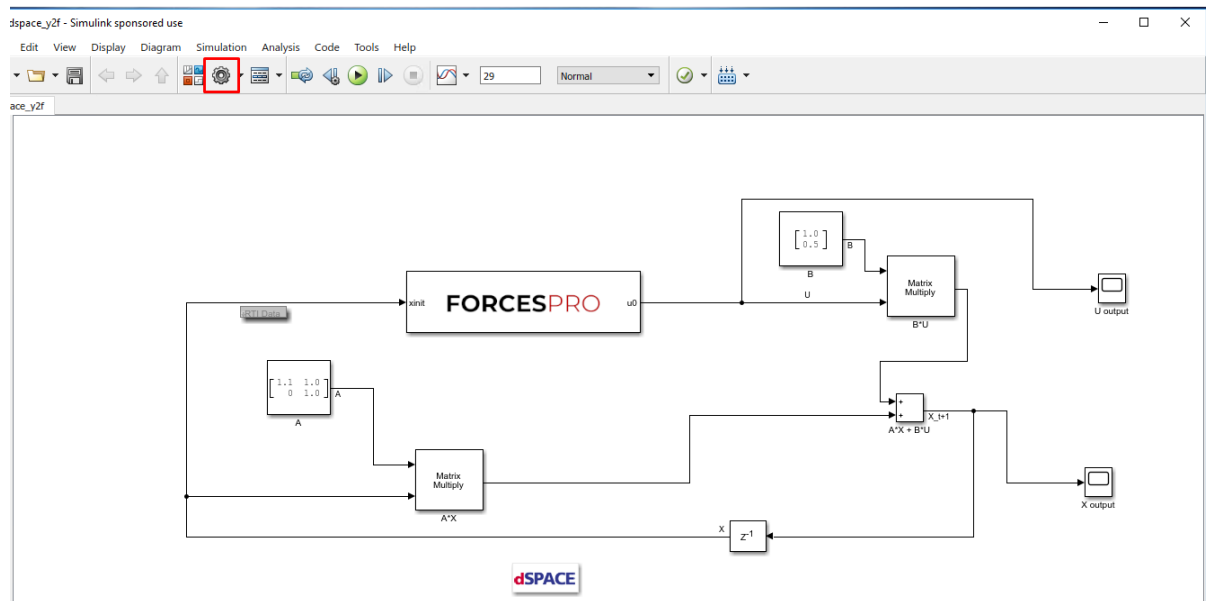

Figure 13.21: Open the Simulink model options.
6. (Figure 13.21) Access the Simulink model's options.